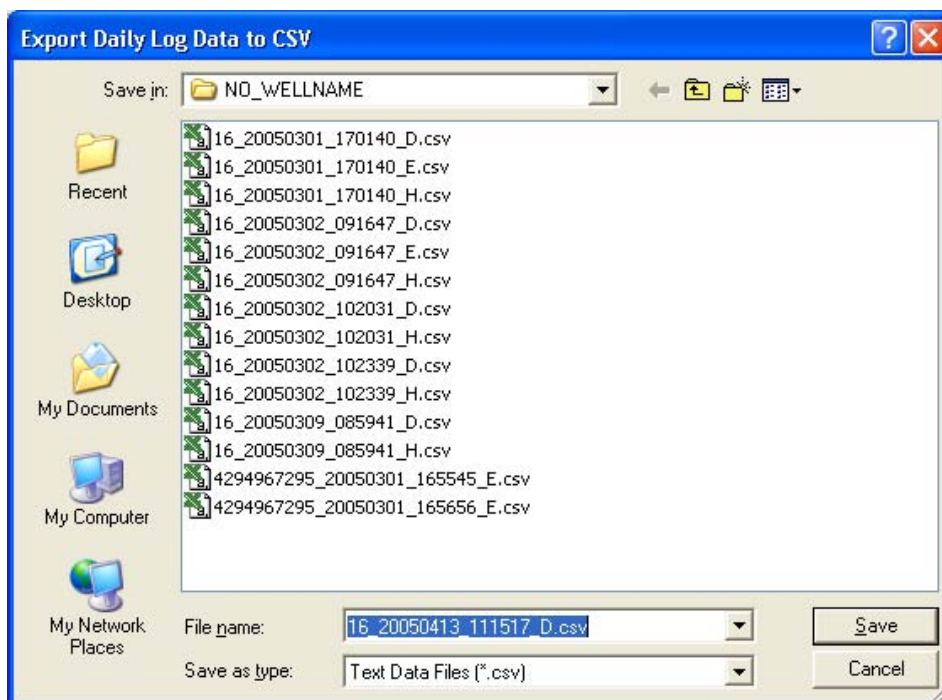

Figure 5.13—Default directory for exported log files
2. When the “Export Daily (or Hourly) Log Data...” window appears, click “Save.” By default, exported logs are saved in C:\NuFlo log data\MC-III\<WELL NAME>, however the user can specify a new location, if desired (Figure 5.13, page 87). The “wellname” folder will bear the well name that appears on the Wellsite Information screen. If no well name is entered on this screen, the folder will be named “NO_WELLNAME.”